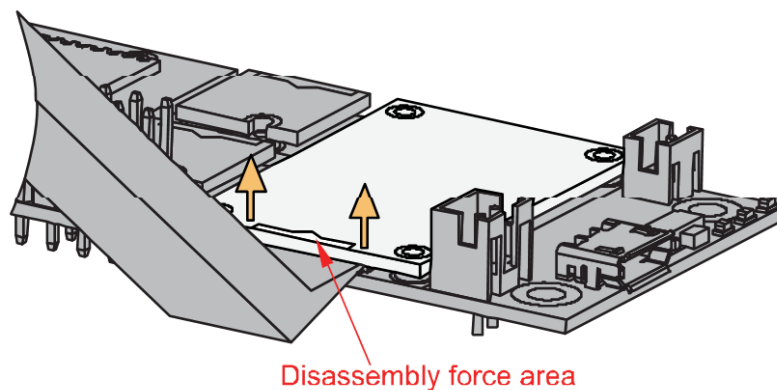

Figure 7: Applying even forces on the proper location of a WisBlock module
3. Apply force to the module at the position of the connector, as shown in **Figure 7**, to detach the module from the baseboard.